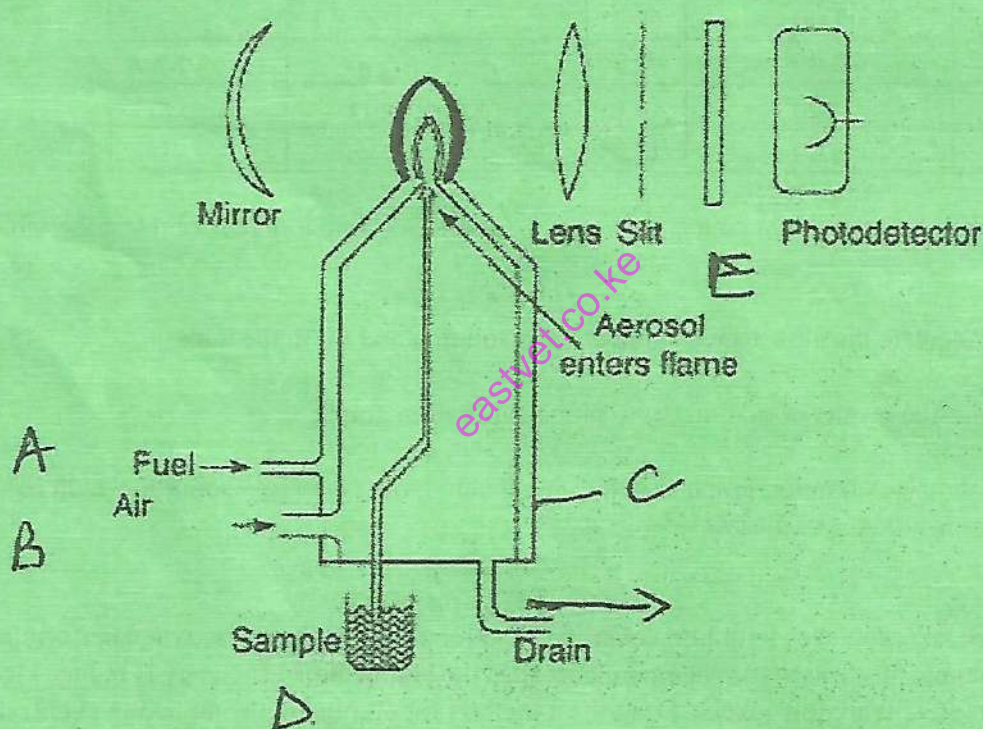

Figure 5
- \* 14. Figure 5 is a diagram showing parts of a flame photometer.
- (c) Name **three** major parts of a flame photometer not included in Figure 5. (3 marks)